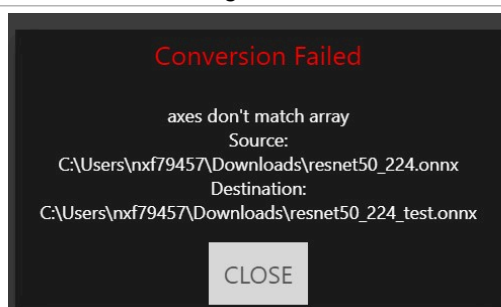

Figure 8. Error during quantization if using monochromatic images for calibration
**Note:** If an error message as shown in Figure 8 occurs, most probably there is a monochromatic image (just one channel, no RGB) in the calibration dataset. Replace this image with a 3-channel, RGB image. This issue is not related to ONNX model.